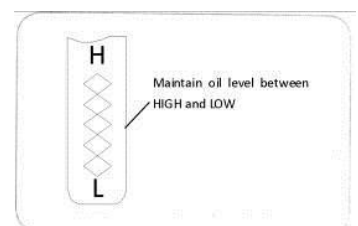

Figure 26
- Unscrew and remove oil fill cap from oil filler tube. Note oil level. If oil reading on dipstick is below "**LOW**" mark, slowly add oil to reach "**HIGH**" level. See Figure 26.